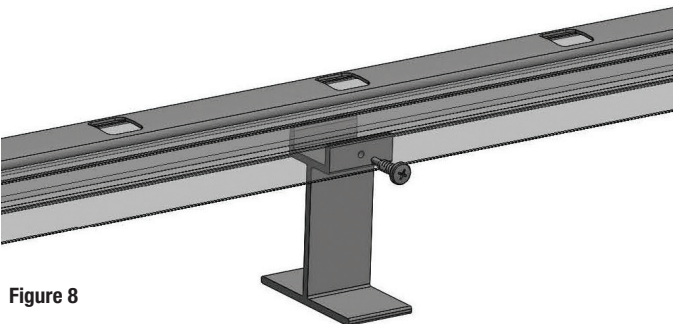

Figure 8
Position the bottom rail crush block under the center of the bottom rail. Fasten bottom rail crush block to the bottom rail with (1) #10 x 3/4-in screw (Figure 8).